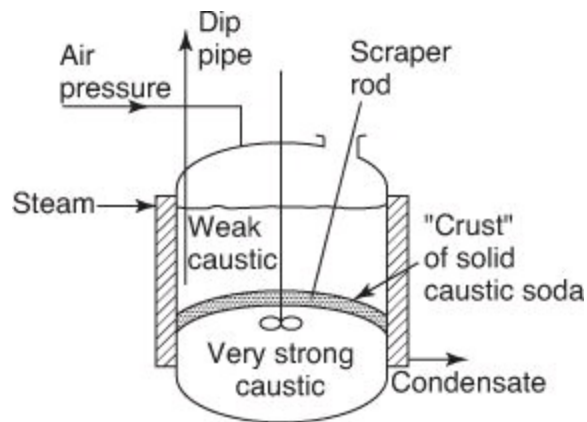

Figure SAT13.2TP2
2. A second example of an accident occurred in a tank as shown in Figure SAT13.2TP2. A problem occurred in discharging the NaOH (caustic) solution by air pressure because the end of the dip pipe was broken. The manhole cover was removed, and a scraper rod was lowered into the liquid to remove the broken part of the dip pipe. An immediate explosion occurred that shot NaOH solution 30 ft into the air, killing one man. What was the cause of the explosion?